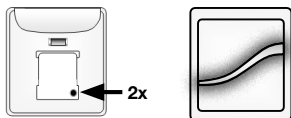

Fig. 1
A. Starting with the primary control, press and release the program button on the back side of the current remote twice in rapid succession (2 taps). The LED light will flash alternating amber and green to identify inclusion mode. (Fig. 1)